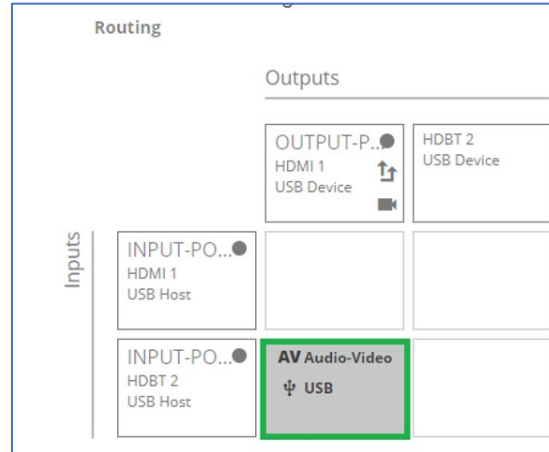

Figure 16: Selecting Remote Active Host
2. Click the Input/Output cross-point **HDBT 2 USB Host** shown in (Figure 16).